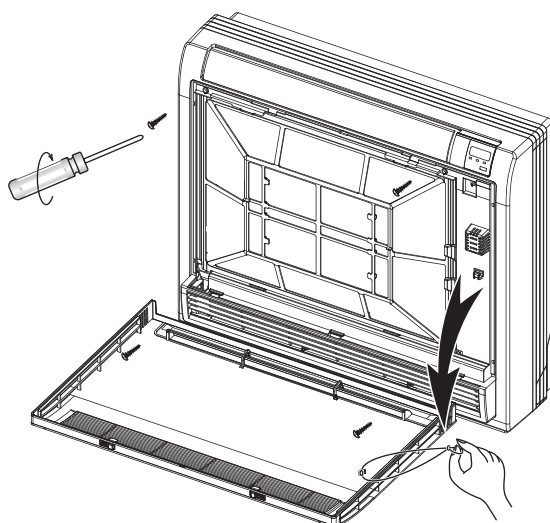

Fig.7-2
- Remove the string. (Refer to Fig.7-2)
- Remove the four screws. (Refer to Fig.7-2)